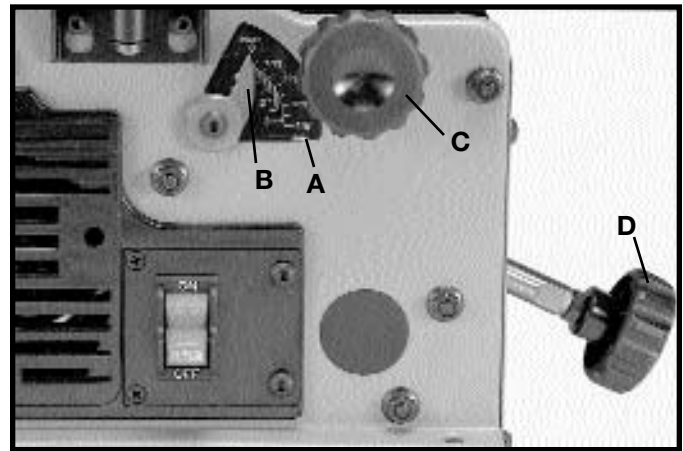

Fig. 24
The jointer can be set to cut any depth from a very thin shaving to 1/8" deep. A dual English/Metric scale (A) Fig. 24, and pointer (B) are provided to indicate the depth of cut. To adjust for depth of cut, loosen lock knob (C) and turn adjusting knob (D) clockwise to lower and counterclockwise to raise the infeed table. After the infeed table is at the desired setting, tighten lock knob (C). **NOTE:** For best results, final positioning of the infeed table should always be made from the bottom to the up position.